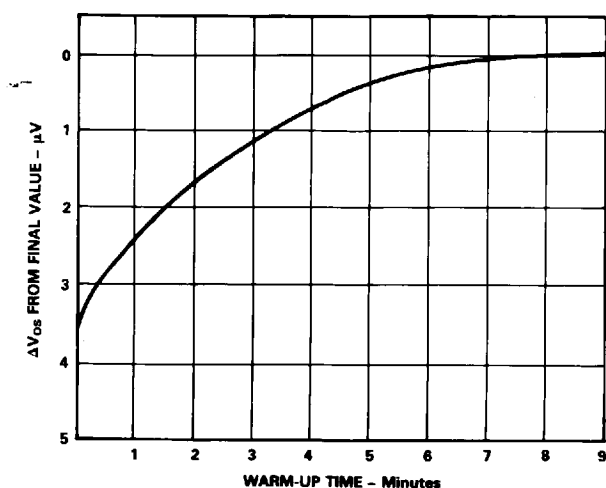

Figure 12. Offset Voltage, RTI, Turn-On Drift
**Turn On Drift:** The input offset of the 1B31 stabilizes to within  $1\mu\text{V}$  of final value in 5 minutes (Figure 12). The test conditions are:  $350\Omega$  bridge with  $+10\text{V}$  excitation and ambient temperature of  $+25^\circ\text{C}$ .